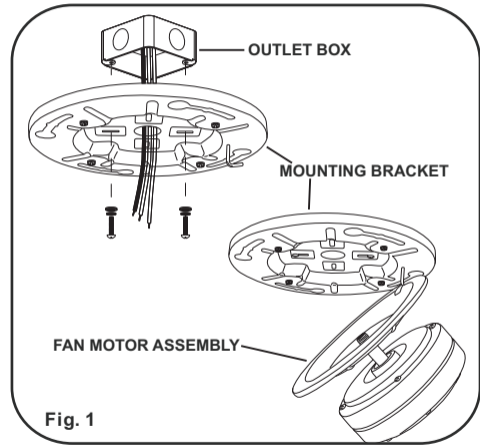

Fig. 1
Step 1. Attach the mounting bracket to the outlet box with two screws and washers provided with the outlet box. Make sure the bracket is tight and secured. (Fig. 1)
Step 2. Lift fan into position by hanging the motor assembly onto the hook from the ceiling mounting bracket allowing it to hang freely. (Fig. 1)